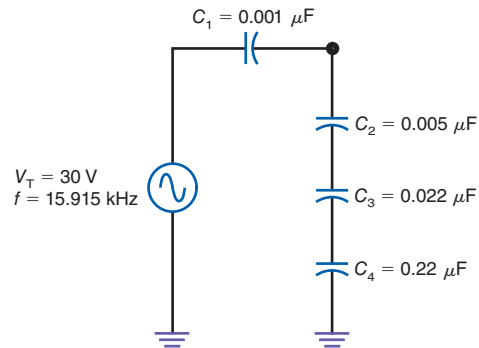

Figure 17-20
- 17.23** In Fig. 17-20, calculate the following: